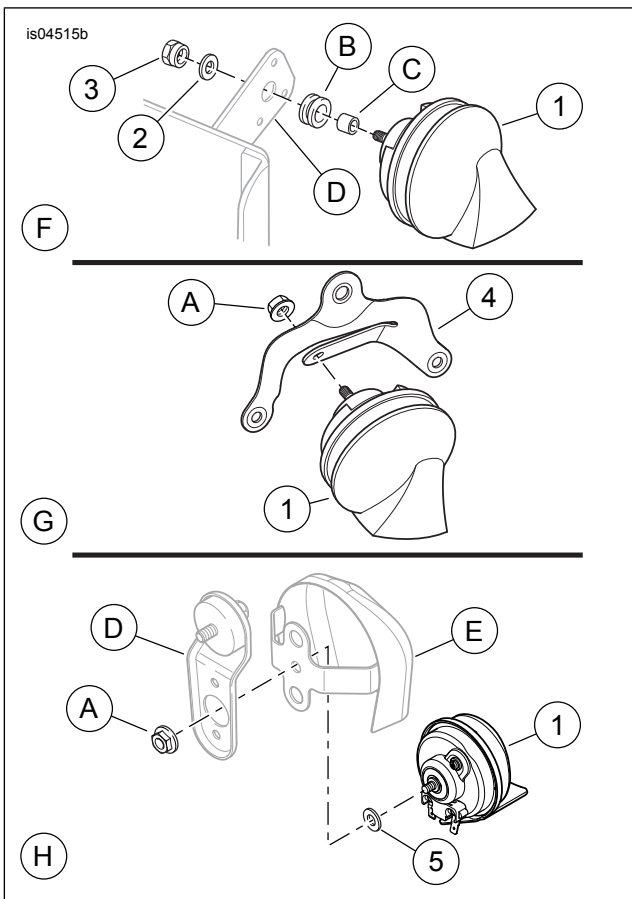

Figure 2. Horn Installation
See Figure 2 and Table 1.
3. See Figure 2. Remove the currently installed horn (1), nut (A), and all the other horn mounting hardware from the horn mounting bracket (D or 4). Discard the horn, but retain the nut and all other horn mounting hardware.
4. **For 2002-2007 VRSC models:** Remove and discard the original horn mounting bracket, and install the **new** horn mounting bracket (4) from the kit. Install new horn with the O.E. flange nut (A) saved earlier. **For 1994 and 1995 Dyna models, and 1991 through 1993 Dyna models fitted with a 1994-style battery tray:** Insert the mounting stud of the **new** horn through the O.E. spacer (C) and grommet (B) in the horn mounting bracket with any hardware saved earlier. Obtain the spacer nut (3) from the kit. Apply a few drops of Loctite 271 - Red to the nut threads, and install the nut onto the horn mounting stud, and tighten to 11–13 N·m (100–120 in-lbs). Over-tightening or under-tightening the horn spacer nut may affect the sound quality of the horn. **For all models except VRSC:** Insert the mounting stud of the **new** horn (1) through the new kit washer (5). Obtain the O.E. horn cover (E), and assemble **new** horn (1) with washer (5) to horn cover (E) using O.E. flange nut (A).